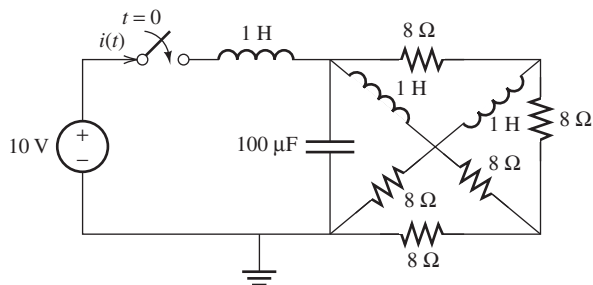

FIGURE P5.34 Circuit for Problem 5.34.
- 5.34 (A) Consider the circuit shown in Figure P5.34. The switch is closed at $t = 0$, draw the equivalent circuit diagram when $t = \infty$.